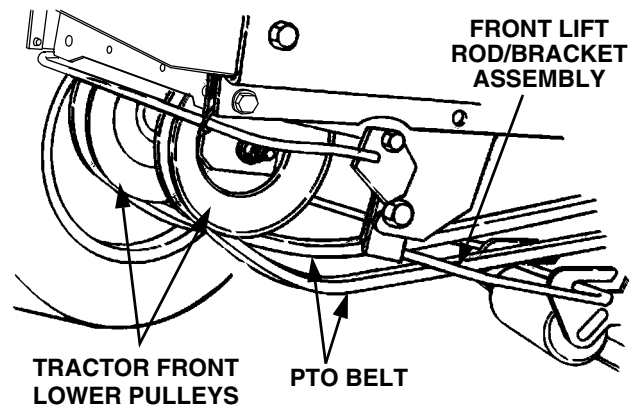

Figure 41
5. Pass the PTO belt downward, inside the tractor frame, until the belt is below the two tractor front lower pulleys and pull the belt clear of the tractor (See Figure 41).